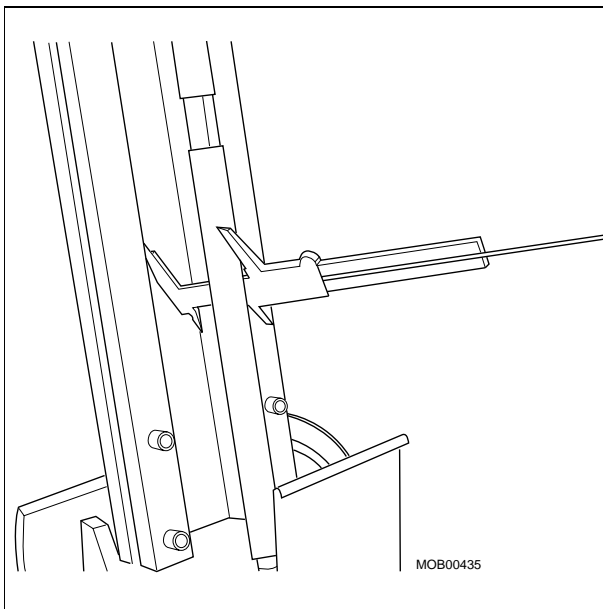

Fig. 1
- Remove all arm and joint covers so that the adjustment rod is visible (Fig. 1).